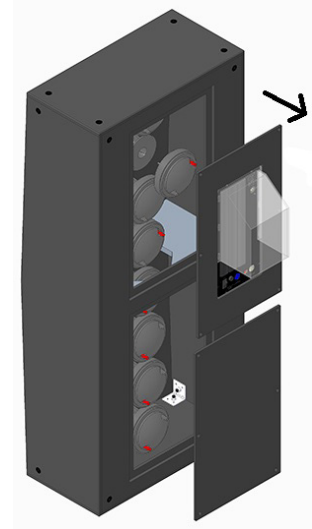

Figure 23: A-2302 Removal
- c. Pull off the bad driver (**Figure 23**).